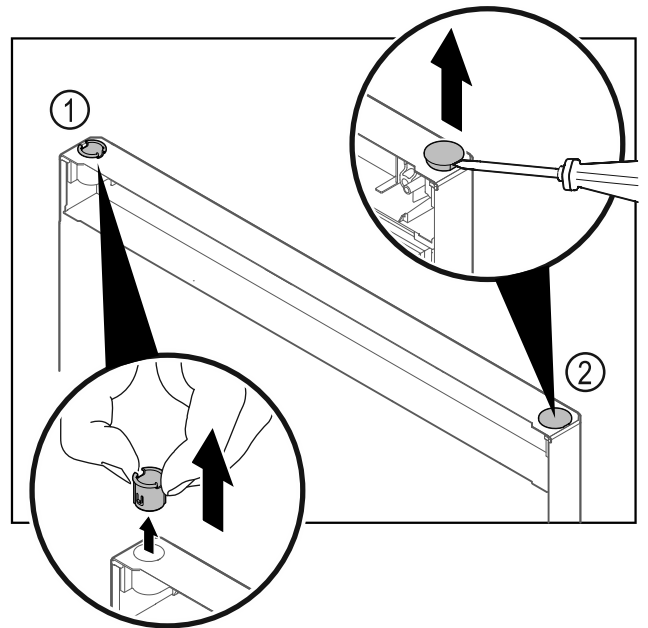

Fig. 30 Freezer compartment door
- ▶ Pull out the hinge bushing Fig. 30 (1) with your fingers.
- ▶ Carefully lift the cover plug Fig. 30 (2) with a slotted screwdriver and pull it out.